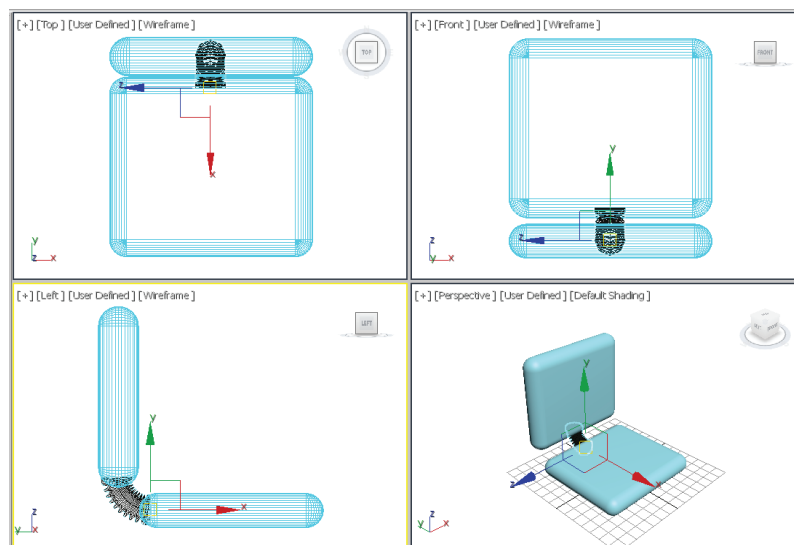

Figure 3-38 Alignment of spring support in the viewports
11. Choose the **Zoom Extents All** tool to display all the objects properly in the viewports, refer to Figure 3-38.